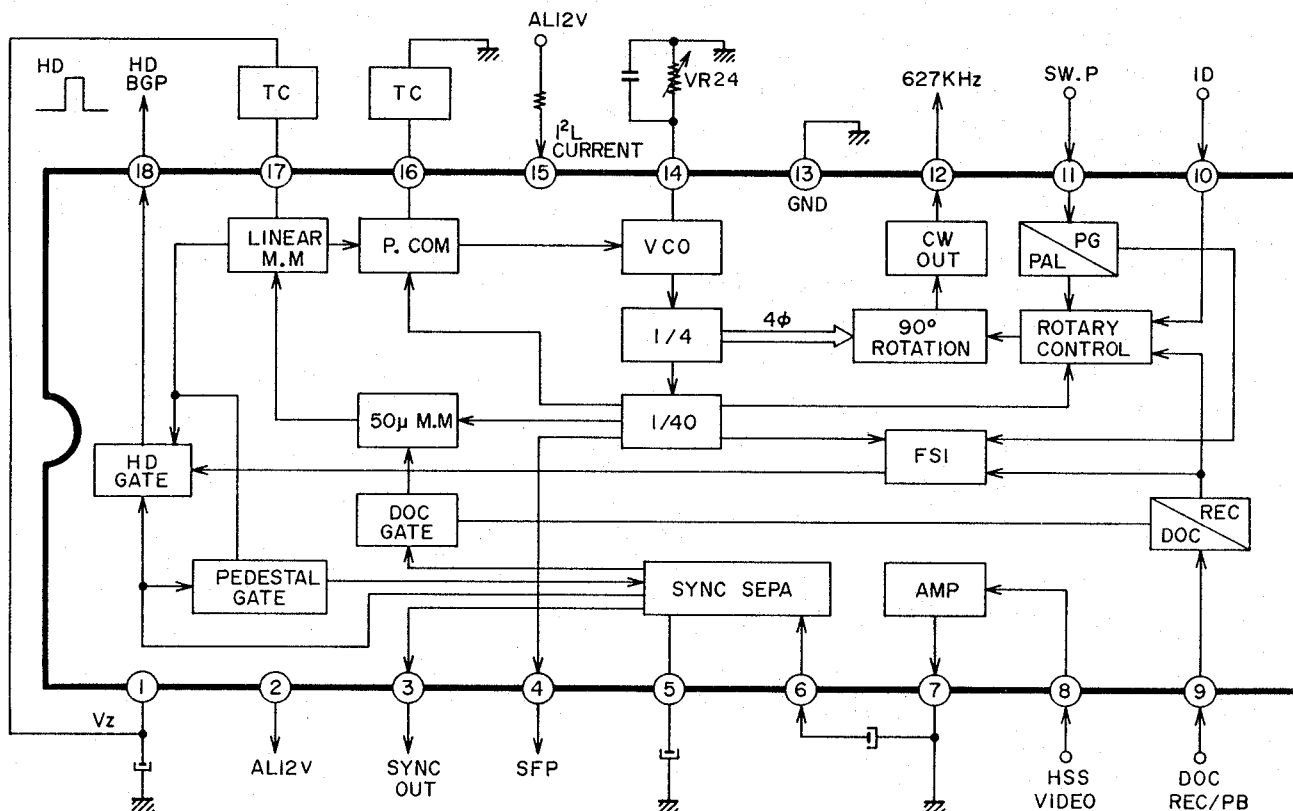

Fig. 92
Fig. 92 shows the internal block of IC AN6362 of AFC. Video signal for HSS (from VIDEO OUT TR25) from Pin ⑧ is entered through the filter. After amplified, it enters SYNC SEPA and the output comes from ③ and it will be the source of REF V (for servo). Also, HD pulse is outputted from ⑮ by the SYNC SEPA ( $\rightarrow$  BGP). SYNC enters AFC loop, and after rotation controlled, 625 kHz is outputted at ⑫. VCO output (1/160) of AFC is outputted at ④ as SFP (SYNC FRONT PULSE). This SFP and HD are sent to SYSCON to be used for the tuner searching (To judge whether it is the video signal or not). The frequency of SFP, if measured, naturally shows 15.625 kHz if AFC is locked. The time constant of AFC is governed by C and R of Pin ⑮, and the free run frequency is adjusted by VR24 of Pin ⑭ so that Pin ⑮ DC will be 4.6V when the video signal is inputted. (TP-31).